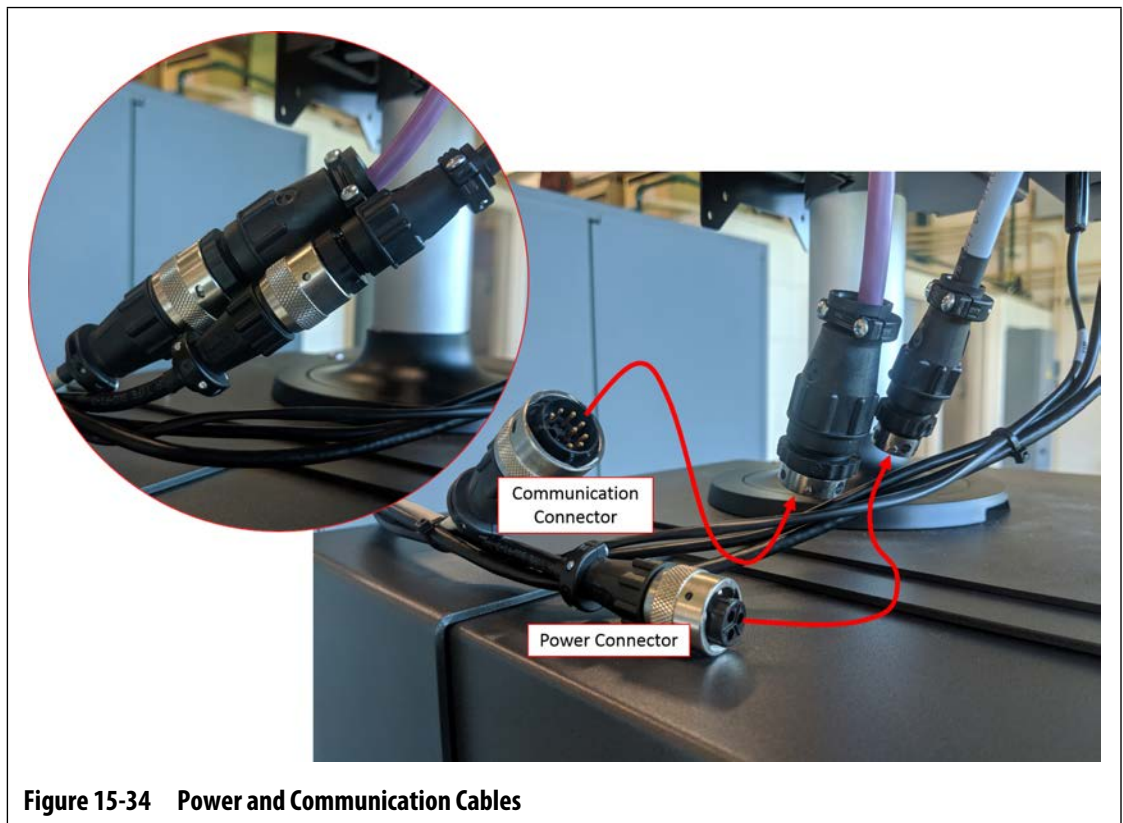

Figure 15-34 Power and Communication Cables
6. Connect the female Power cable connector and male Communication cable connector to the male Power connector and female Communication connector on the MCU. Refer to Figure 15-34.